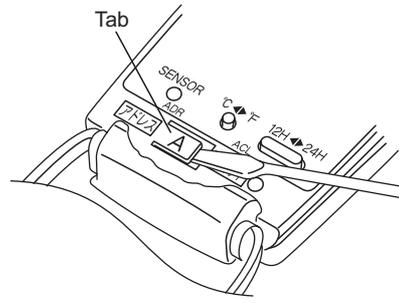
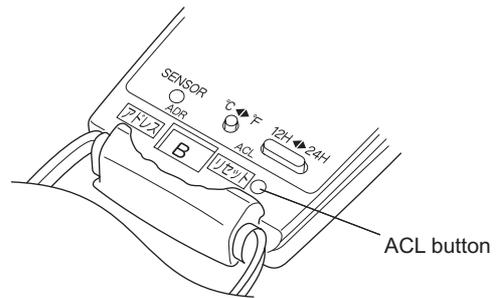

Fig. 13
Fig. 14
- (1) Switch on the power source.
- (2) Break the address-setting tab marked "A" on the second remote controller to change the address (Fig. 13). When the tab is removed, the address is automatically set to B (Fig. 14).
- (3) Press and hold the remote controller QUIET button and 1 HR TIMER button. At the same time, press the ACL (reset) button. Use a thin object such as the tip of a pen to press the ACL button. When this has been done, "oP-1" (test run) appears, blinking, in the remote controller clock display area.